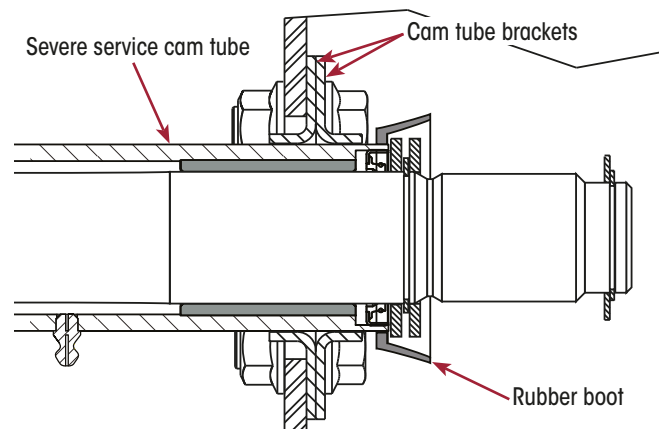

Figure 76: INTRAAX Severe Service Rubber Boot Assembly
11. Snap rubber cam tube boot (Figure 76) over and behind S-cam journal washer.